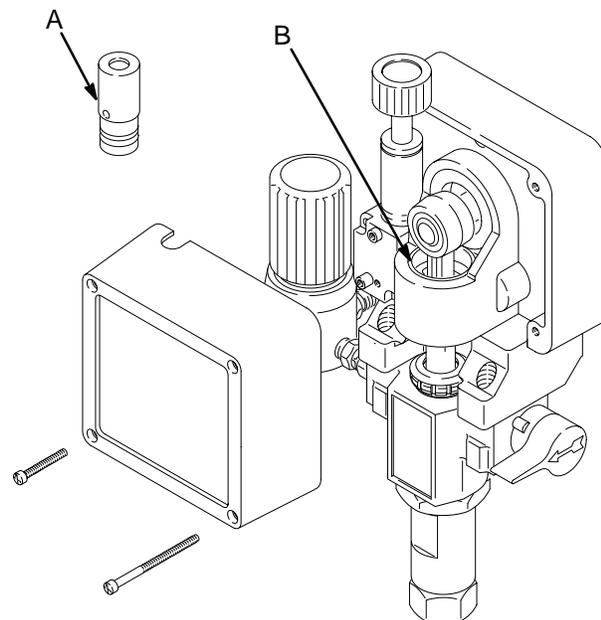

Fig. 11
4. Periodically clean paint residue from the pressure transducer vent hole (A) area. See Fig. 11. Replace the transducer when leakage is excessive. See page 33.
5. Lubricate the bearing housing after every 100 hours of operation. Remove the front cover. Fill the bearing housing cavity (B) with several drops of SAE 10 non-detergent oil. See Fig. 11.